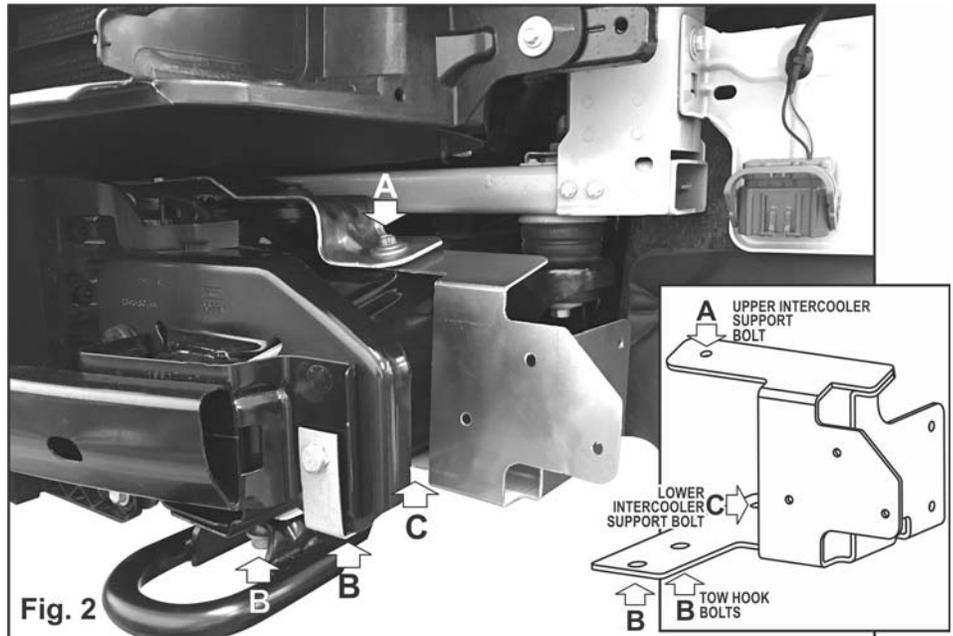
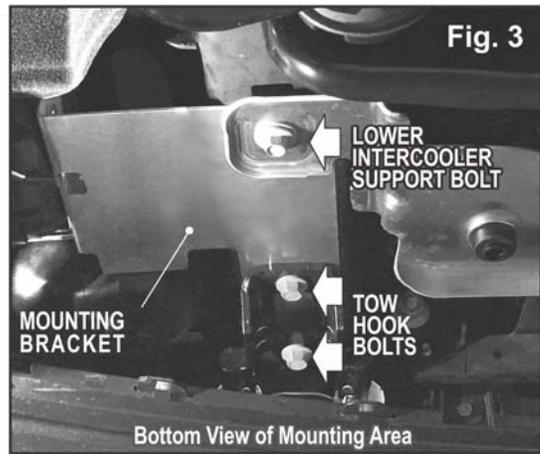

Fig. 2
Fig. 3
3. On the vehicle, remove the mounting hardware from the *Upper Intercooler Support* (A) the *Lower Intercooler Support* (C) and the *Tow Hook* (B) (Fig. 2). Figure 3 shows the bottom view of the mounting area with the bracket mounting under the tow hook and *Intercooler support*.